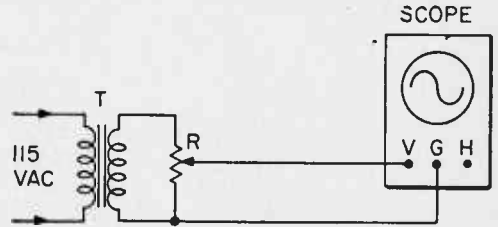

Fig. 14. Set-up for observing 60-cycle AC.
**Using a Scope.** There are countless uses for a scope. In Fig. 14, a set-up is shown for observing a 60-cycle AC signal. Transformer T is a 6.3-volt filament transformer and R is a potentiometer of any convenient value and functions as a variable voltage divider. The adjustable AC voltage is applied to the vertical input terminal and the "G" terminal which is grounded and is common to both the vertical and horizontal inputs. By ad-